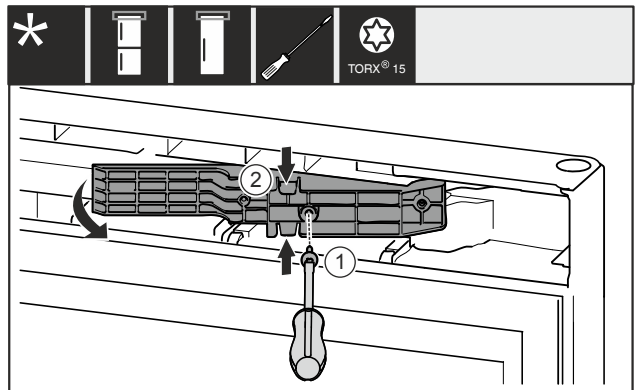

Fig. 14 *
- Remove the screw Fig. 14 (1).*
- Gently press the adapter piece Fig. 14 (2) together at the top and bottom and pull it out.*